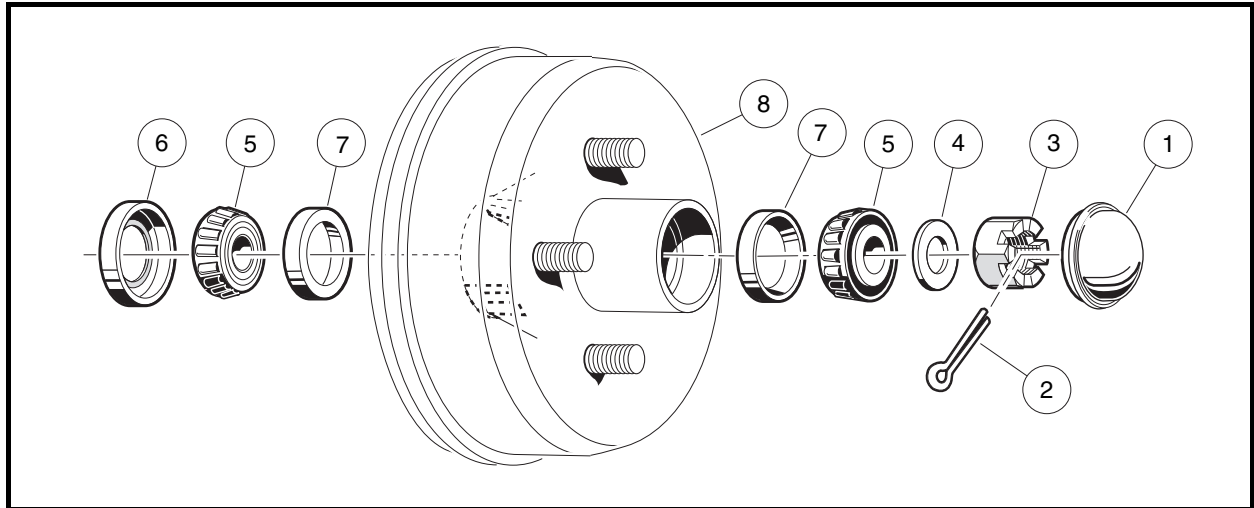

Figure 6-2 Front Spindle and Brake Drum Assembly
- 4.1. Remove the dust cover (1) and cotter pin (2) (**Figure 6-2, Page 6-7**).
- 4.2. Use a torque wrench and a Torx #T-27 driver, or hydraulic brake adjuster (CC P/N 102169401), and gently rotate the adjuster bolts (**Figure 6-2, Page 6-7**). See **following NOTE**.